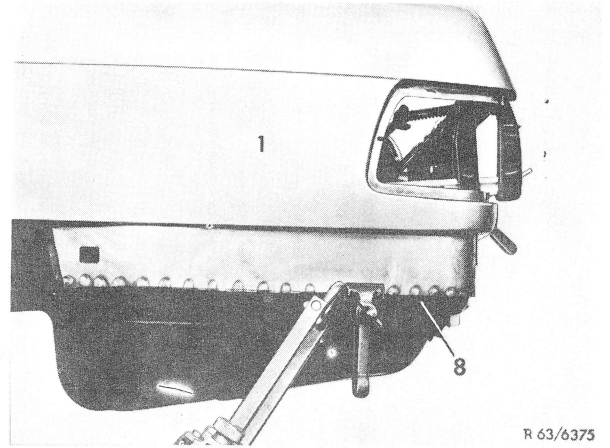

Fig. 8
28 Spot weld rear fender (1) to rear floor (8) (Fig. 8).